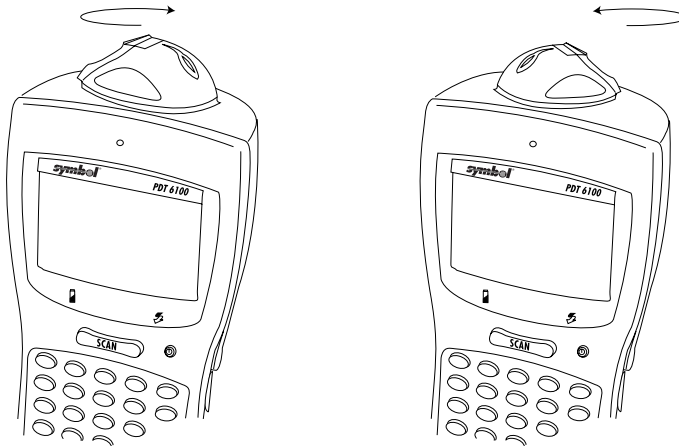

Figure 5-4. Positioning the Integrated Scanner
2. Lift up and turn the scan element on the top of the terminal to the preferred orientation for scanning (refer to Figure 5-4). The scan head turns only toward the back of the terminal.